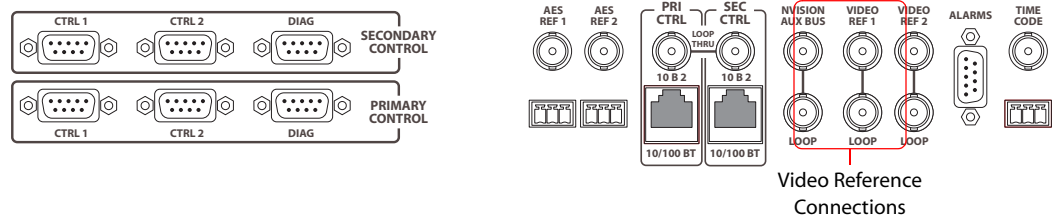

Figure 3-13. Video Reference Connections (Rear View)
- 1 Locate the video reference connections on the rear of the router, as shown in Figure 3-13. Video reference connections are labeled 'VIDEO REF 1' and 'VIDEO REF 2'.